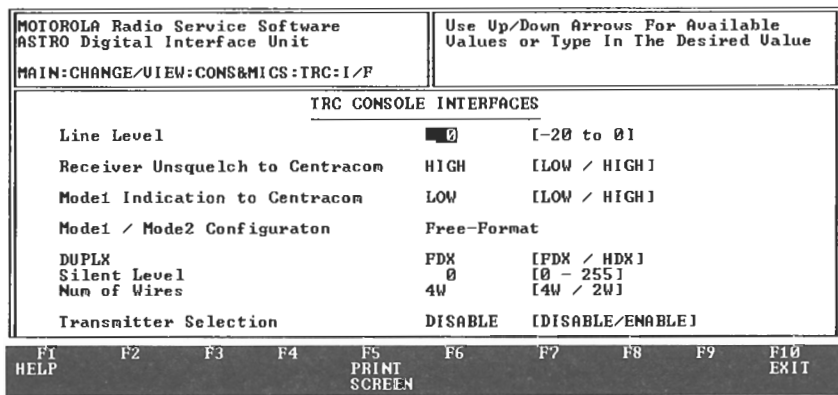

Figure 5
Step 7. Access the CHANGE/VIEW : CONS&MICS : TRC Console : Console Interfaces screen (see Figure 5).